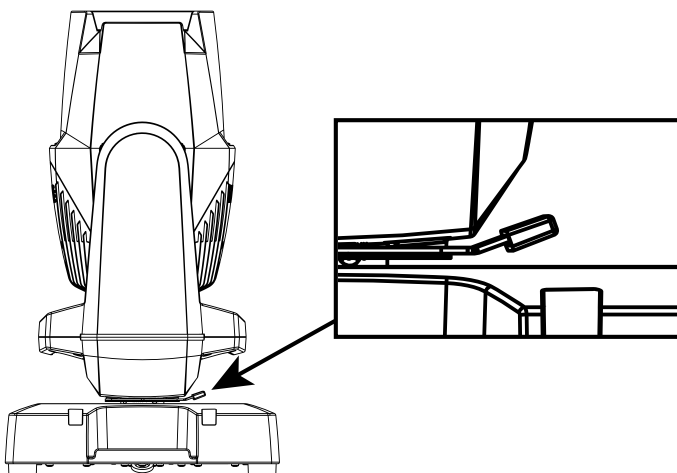

Figure 4: G-7 Spot Pan Lock
7. Check if the pan lock is released. If not, slide the pan lock shown in the figure 4 to the right to release the pan lock.